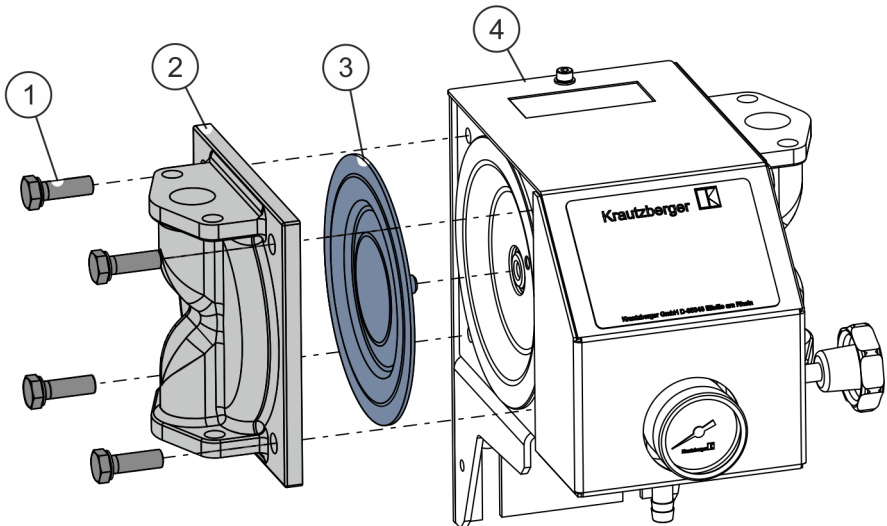

Fig. 10: Unscrew the cover
5. ➤ Unfasten all 4 screws (Fig. 10/1) and remove the diaphragm cover (Fig. 10/2).
6. ➤ Unscrew the diaphragm (Fig. 10/3) from the control pin (Fig. 10/4).
8.  Screw the new diaphragm (Fig. 10/3) firmly into the control pin (Fig. 10/4).
9.  Attach the diaphragm cover (Fig. 10/2).
10.  Lightly grease all 4 screws (Fig. 10/1) and screw tight (**Tightening torque: 20 Nm**).